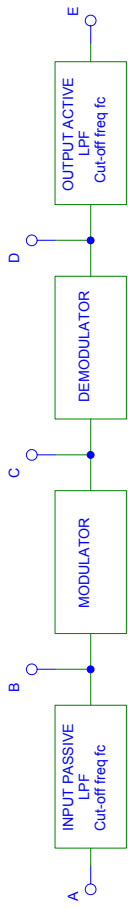

Fig. 1 Block diagram of a communication system.
A block diagram of the communication system is shown in Fig. 1. Notice that two low pass filters are required, the first one in the transmitter end, limits the frequency range of the input signal. The second one, in the receiver stage, removes high frequency components that are contained in the demodulated signal. These filters will be designed by you according to some given specifications. The modulator and demodulator will correspond to the modulation scheme assigned to you.
4. From the schematics of Exp. 3, 4, 5, and 6, copy the modulator and demodulator schematics corresponding to the modulation scheme assigned in *myproject.txt* and modify, if necessary, any component values to create a schematic of the entire communication system described in Fig. 1 (consider the notes below). This schematic will be your guide to assemble the system. [4].
In this section you will build the communication system as described in Fig. 1. *Select a time span for each plot such that 2 to 4 periods of the signal are shown.*
2. Apply the modulating (at node A, shown in Fig. 1) and carrier (or sampling) signal using the parameters of the previous section.
- (a) Input signal to the system. Connect Channel 1 of the oscilloscope to the node *A* shown in Fig. 1. Choose a proper time (TS) and frequency span (FS) for your particular input frequency  $f_x$ . (P3) [2].
- (b) Input signal to the modulator. Connect Channel 1 of the oscilloscope to the node *B* shown in Fig. 1. Use the same TS and FS as in the previous plot. (P4) [3].
- (c) Modulated signal (**DSB and AM only**). Connect Channel 1 of the oscilloscope to the node *C* shown in Fig. 1. Choose a proper TS and a FS. Make sure *all* the components of the modulated signal are displayed in the spectrum. (P4a) [5].
- (d) Demodulated signal. Connect Channel 1 of the oscilloscope to the node *D* shown in Fig. 1. Again, make sure the spectrum shows all the significant components of the demodulated signal (for PCM at least the repetition of the message spectrum at  $f_s$ ) (P5) [5].
- (e) Recovered signal. Connect Channel 1 of the oscilloscope to the node *E* shown in Fig. 1. Use the same TS and a FS as in the previous plot (P6) [5].